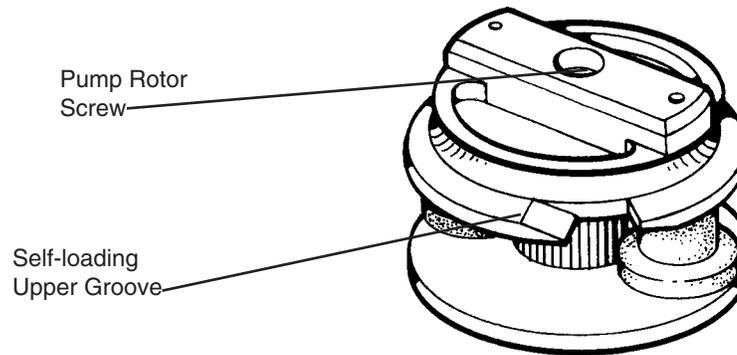

Figure 8-2, Pump Rotor
1. Loosen and remove the pump rotor screw from the center of the pump rotor as shown in Figure 8-2.